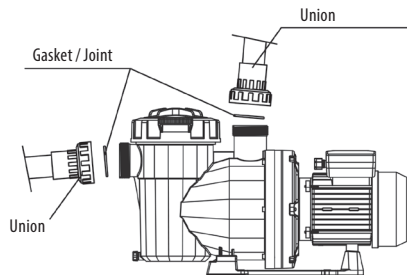

Fig. 2
- To connect the piping, glue the pipes and the connectors, supplied together with the pump; the fitting connections to the suction and return ports on the pump are threaded and include seals to prevent water loss (Fig. 2).
- Fit the return pipes completely perpendicular and centered in relation to the port to be connected to prevent the pump and the pipe from being subjected to external stress, which apart from making fitting difficult, could break them (Fig. 2).
- Fit the suction piping on a slight 2% slope towards the pump to avoid the formation of air pockets (Fig. 2).